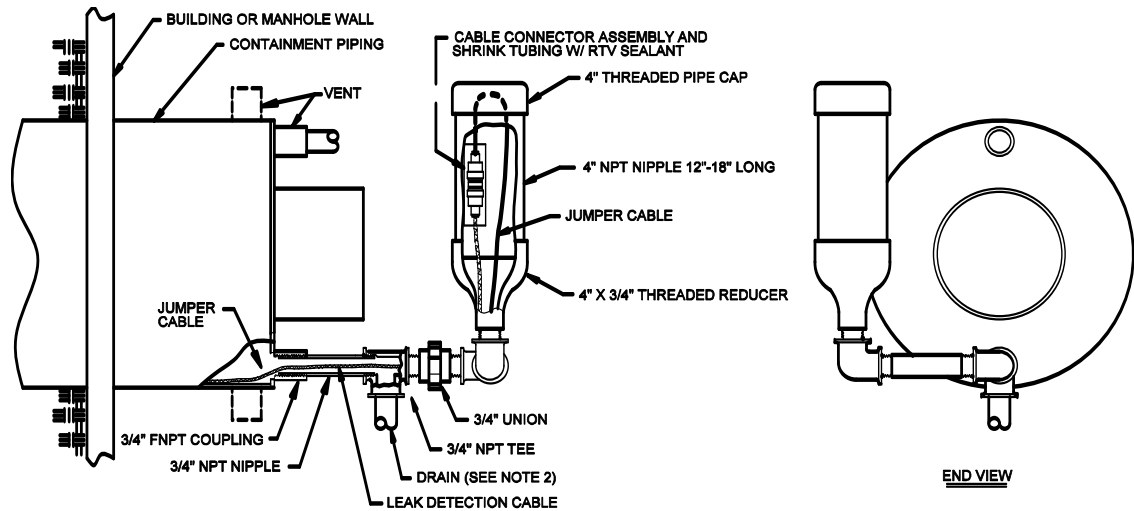

Figure 10
require simultaneously pulling both cables, and most likely will reduce the length of cables that can be pulled at one time. When 2 cables are installed in the same air space, both cables must be pulled out of the secondary containment through the threaded coupling and finally connected together with a cable connector in either: (1) a watertight capped pipe chamber connected to the threaded coupling, as shown in Figure 10 or (2) a NEMA 4X junction box. This type of termination should also be accessible to allow for future maintenance. As an alternative to pulling both cables into the air space of the secondary containment, jumper cable can be routed in electrical conduit. If connectors must be used, it is recommended that they be installed in accessible watertight NEMA 4X junction boxes located at grade.